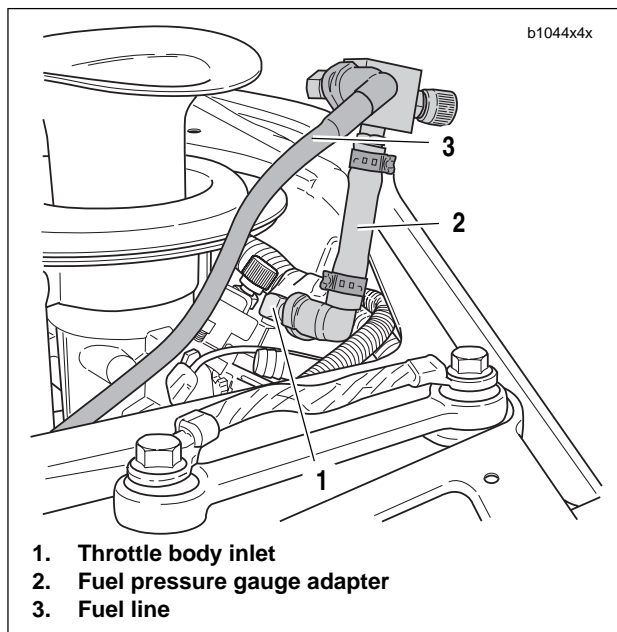
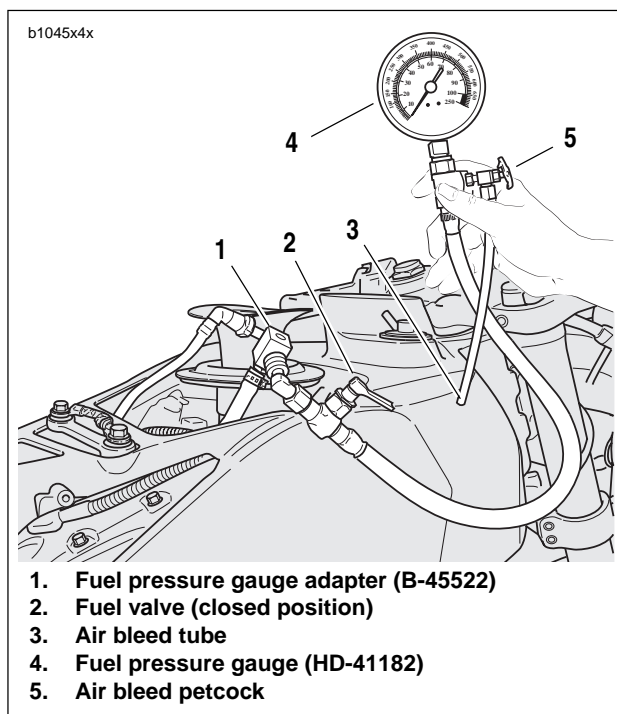

Figure 4-25. Fuel Pressure Gauge Adapter
Figure 4-26. Fuel Pressure Gauge (Part No. HD-41182)
4. See Figure 4-25. Attach FUEL PRESSURE GAUGE ADAPTER (Part No. B-45522) (2) to throttle body inlet (1).
5. Connect the fuel line (3) to fuel pressure gauge adapter.
See Figure 4-26. Verify that fuel valve (2) and air bleed pet-cock (5) on the gauge are closed.
6. Attach FUEL PRESSURE GAUGE (Part No. HD-41182) (4) to fuel pressure gauge adapter (1).
8. See Figure 4-26. Pressurize the fuel system.
- b. Open fuel valve (2) on fuel pressure gauge to allow fuel to flow down the gauge hose.
- c. Position the air bleed tube (3) into proper container.
- d. Open and close the air bleed petcock (5) to purge the fuel pressure gauge and hose of air. Repeat this step several times until only solid fuel (without bubbles) flows from the air bleed tube.
10. See Figure 4-26. Turn engine off. Detach pressure gauge (4) from adapter (1).
- a. Open the air bleed petcock (5) to relieve fuel system pressure and purge the pressure gauge of gasoline.